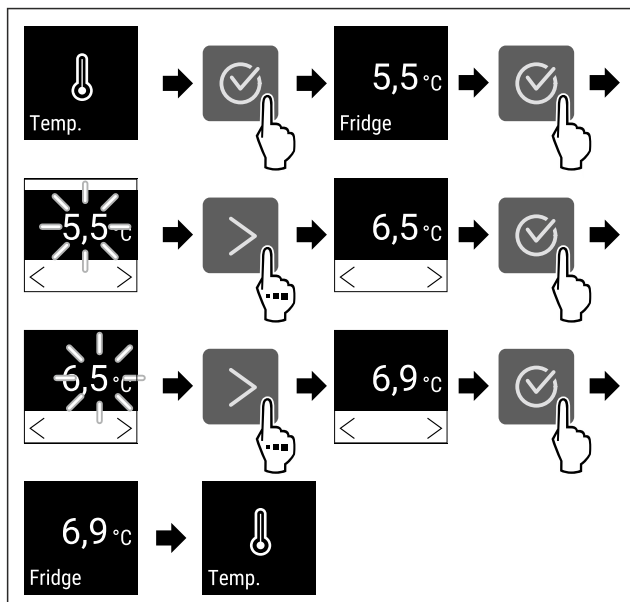

Fig. 68 Changing temperature from 5.5 °C to 6.9 °C
- ▶ Complete steps (see Fig. 68).